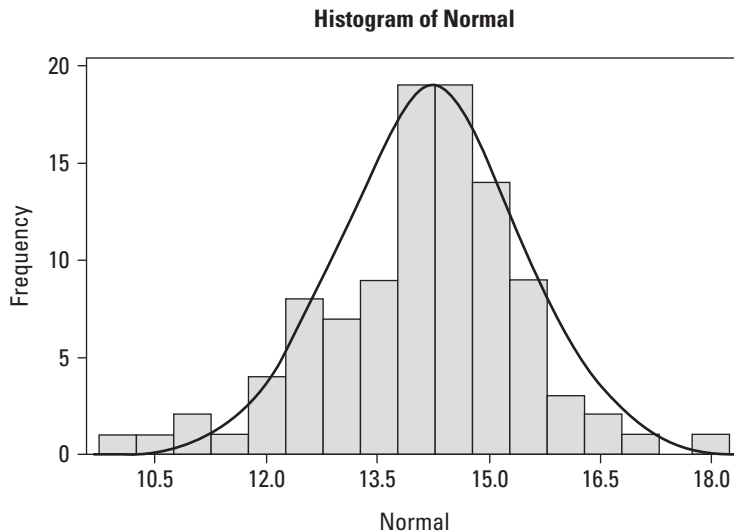
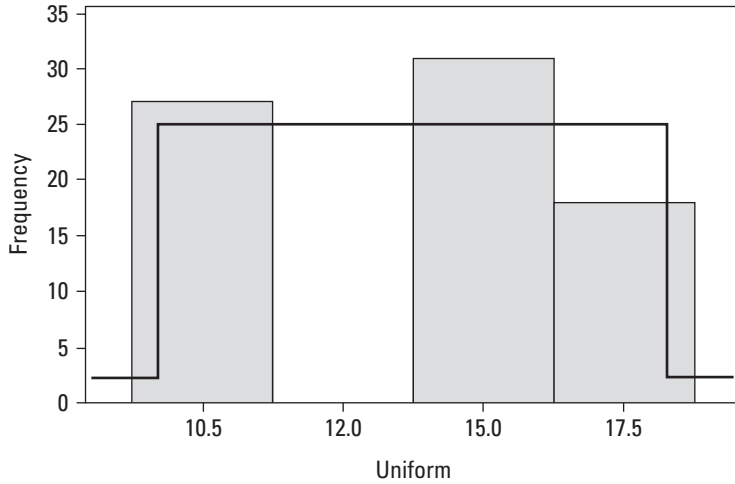
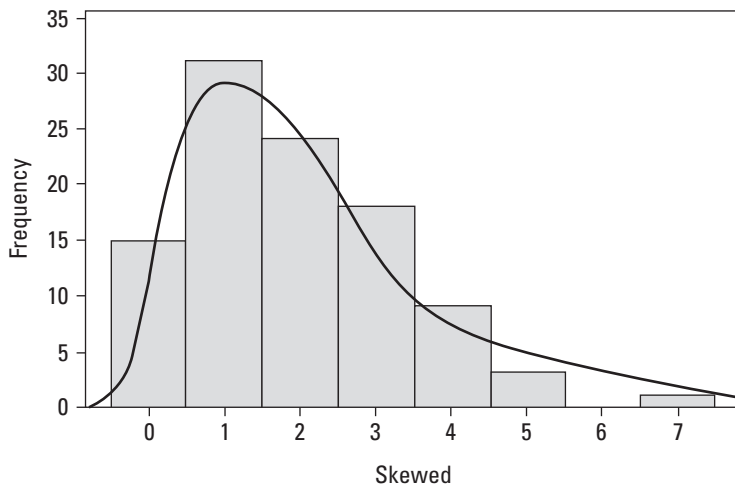

Figure 1-1:
Figure 1-2: Histogram showing a uniformly distributed variation of a characteristic.
Figure 1-3: Histogram showing a skewed distribution.
- ✓ **Variation shape:** The shape of the variation on a histogram comes in three basic flavors: normal, uniform, and skewed. Figure 1-1 shows a variation shape that is *normally* distributed, or bell-shaped. For a normal distribution, most of the observed values of the characteristic are close to a central point, with fewer and fewer values appearing as you get farther away from the central tendency. Figure 1-2 shows a uniformly distributed variation for a characteristic. With *uniform* distribution, the variation is evenly spread out across a bounded range. That is, you're just as likely to observe a value for a characteristic at one end of the interval as you are at the other, or anywhere in between. Figure 1-3 shows a skewed distribution shape. A *skewed* distribution is a variation shape that isn't symmetrical; one side of the distribution extends out farther than the other side.